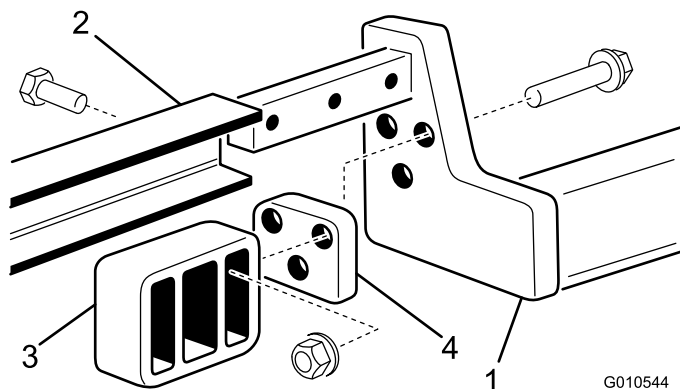

Figure 6
3. Mount a rear cradle to each lift arm with 3 bolts (3/8 x 2 inches), spacers, and flange nuts as shown in Figure 6.
4. Slide the carrier frame onto the lift arms aligning the mounting holes. Secure each side of the carrier frame to the lift arms with 3 bolts (1/2 x 1-1/2 inches). Torque the bolts to 95-108 N-m (70-80 ft-lb) (Figure 6).